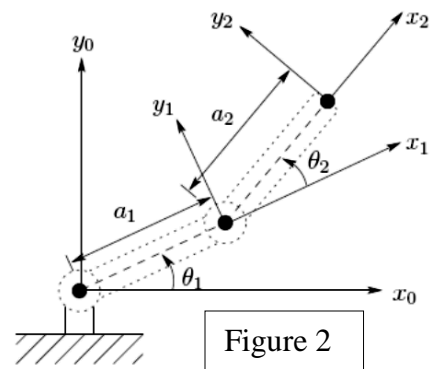

Figure 2
2. Consider the two-link planar arm of Figure 2. The joint axes z_0 and z_1 are normal to the page. The established base frame $x_0y_0z_0$ is as shown. The origin is chosen at the point of intersection of the z_0 axis with the page and the direction of the x_0 axis is completely arbitrary. Once the base frame is established, the $x_1y_1z_1$ frame is fixed as shown by the DH convention, where the origin, o_1 has been located at the intersection of z_1 and the page. The final frame $x_2y_2z_2$ is fixed by choosing the origin, o_2 at the end of link 2 as shown. Write the DH parameters and its corresponding transformation matrices.
- Develop a dynamic model for two degree of freedom manipulator as shown in figure 2.